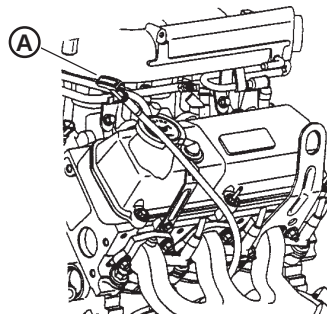

Fig. 8—(A) Dipstick
2. Pull out the dipstick (Fig. 8) and wipe it with a clean rag.